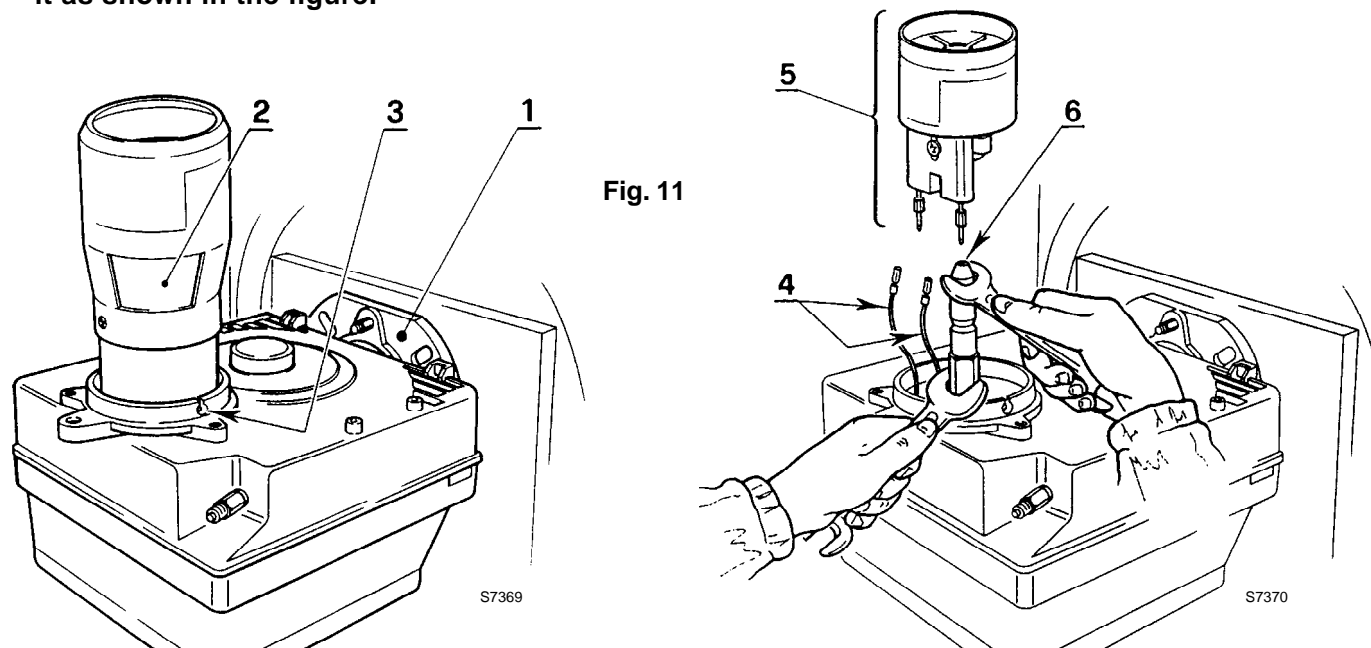

Fig. 11
- A Fig. 11** – Remove the burner out of the boiler, after loosing the fixing nut to the flange.
- Hook the burner to the flange (1), by removing the flame tube (2) after loosening the fixing screws (3).
- Replace the nozzle (see fig. 11, page 6) and check the correct position of electrodes (fig. 15, page 8).